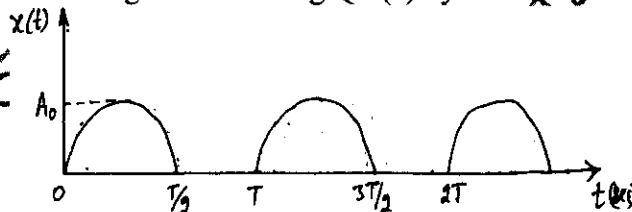

Fig.Q.1(c)
c. Represent the periodic motion given in the Fig.Q.1(c) by harmonic series. (10 Marks)